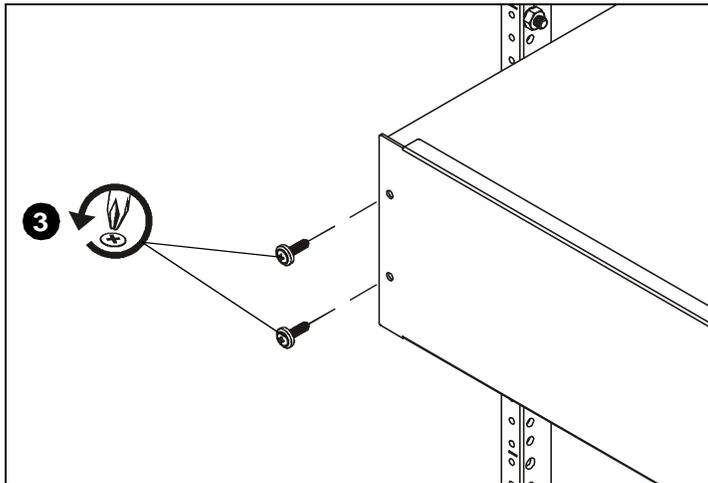

Figure 1
3. Remove equipment rack screws from chosen locations. (See Figure 1)